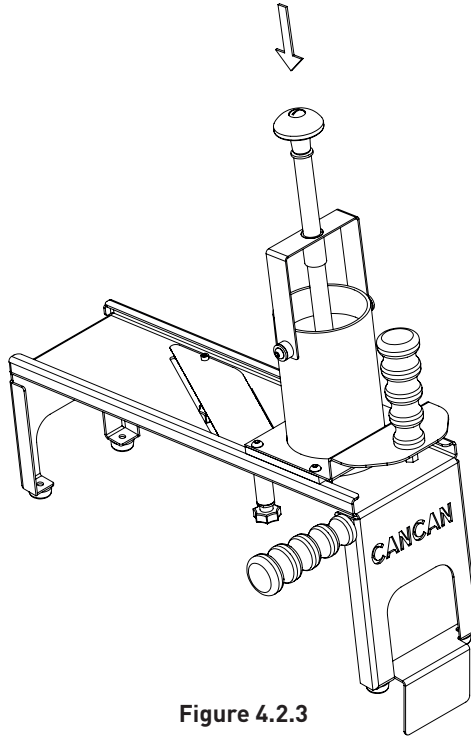

Figure 4.2.3
- Drop the Handle into the Chamber. (Figure 4.2.3)